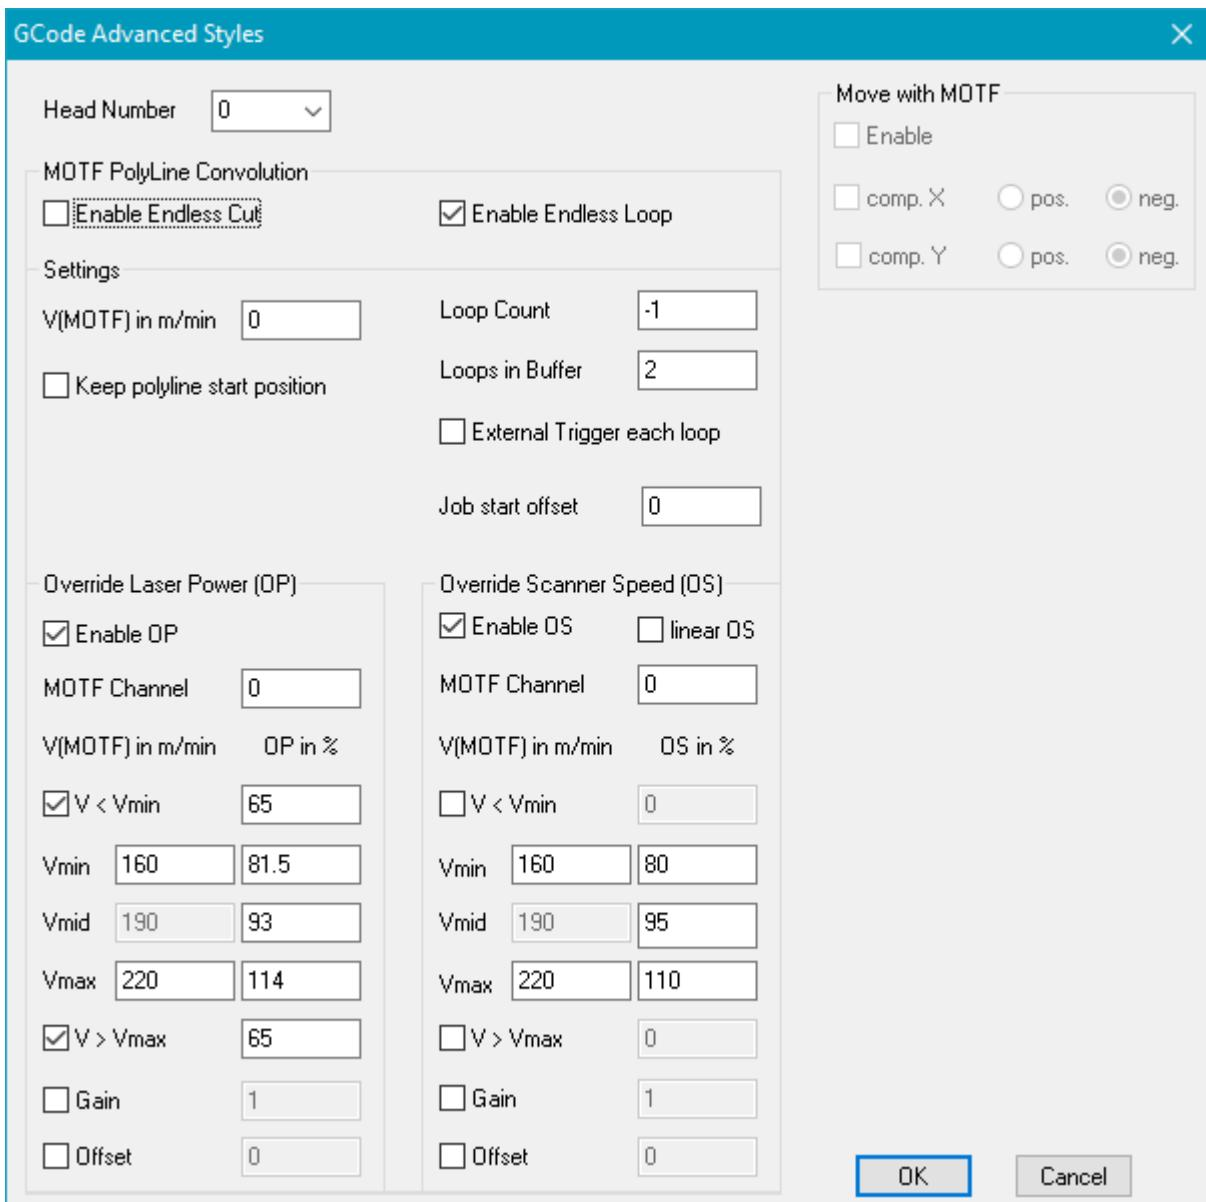

Figure 343: Endless MOTF Dialog
- a. either while being exported as CNC with the advanced option of endless cut or endless loop (*File → Export*, choose *GCode Files (*.cnc)* as file type and open the *Advanced...* dialog; see figure 343)
- b. or while being saved to the Flash memory. (*Extras → Flash*, activate the checkbox *SJF → CNC → UNF* and open the *Settings* dialog on the right; see figure 343).
The following endless MOTF dialog (figure 343) can be reached via *Extras → Flash*, activation of the checkbox *SJF → CNC → UNF* and opening of the *Settings* dialog on the right.